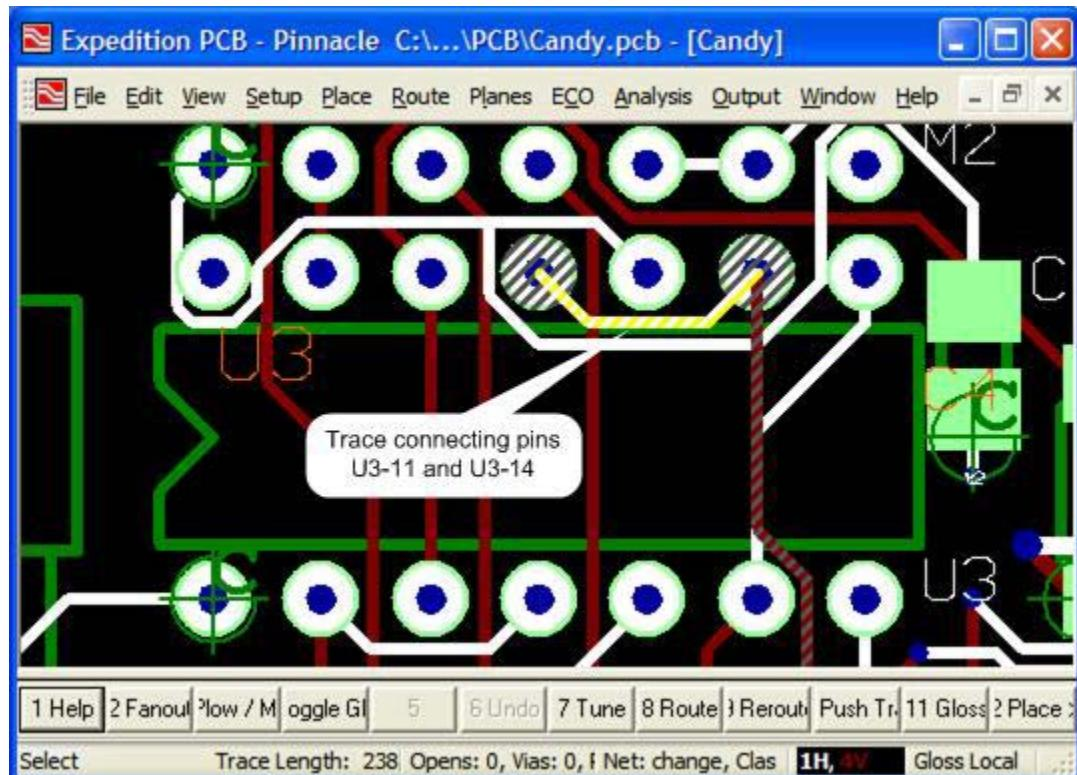

Figure 12-14. Select the trace connecting pins U3-11 and U3-9.
- 3) While in the *Route* mode, double-click on the trace connecting pins *U3-11* and *U3-9* as illustrated in Figure 12-14. (Note that pin *U3-11* has X/Y coordinates of 1200 and 1800, respectively; similarly, pin *U3-9* has X/Y coordinates of 1400 and 1800, respectively. These units – while are in mils – match those in our points array.)
As we see, our new trace was not inserted into the design because there was a DRC fail. If we return to Figure 12-14, we can easily identify the source of the problem. Our script is attempting to route a trace directly between pins *U3-11* and *U3-9*, but this will cause the trace to pass over pin *U3-10*, which will cause a DRC failure.